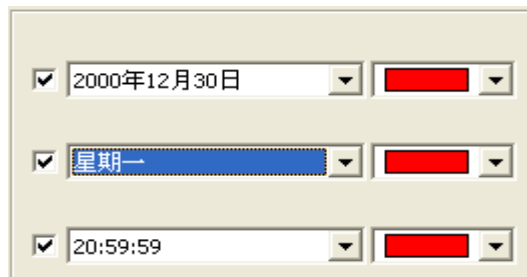

figure 4-19
- ◆ Display effect: the effect of the preview display selection, as shown in Figure 4-19. Any one of which must be checked, such as checking the display, do not check the content is not displayed, choose to display the text color.